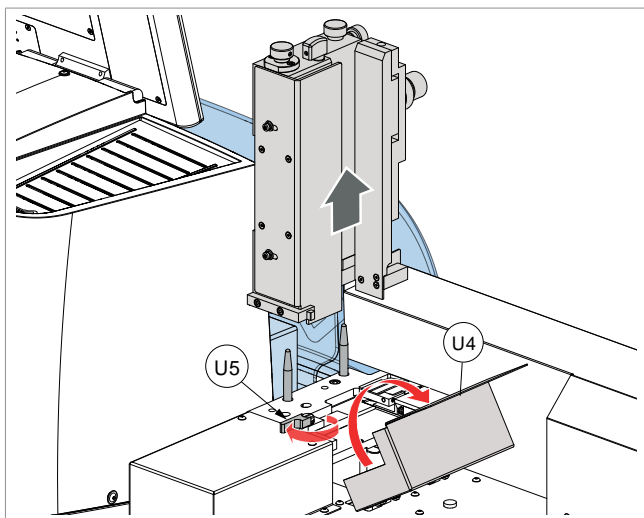

Fig. 135
- 8) Open the flap (U4), open the lever (U5) and remove the loader from the top (Fig. 135).